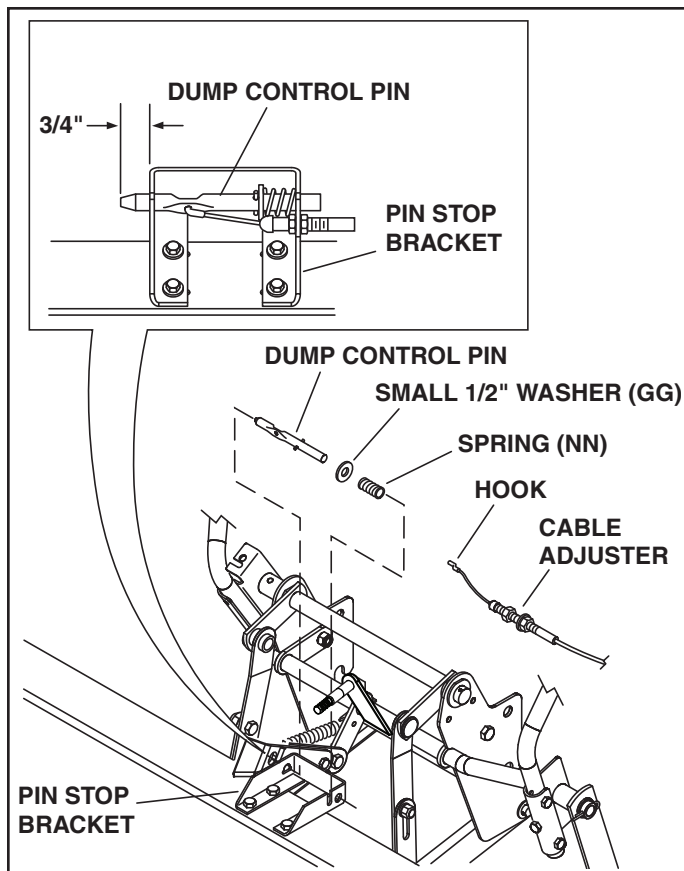

FIGURE 16
STEP 17: INSTALL DUMP CONTROL PIN (SEE FIGURE 16)
- Install a small 1/2" washer (GG) and then the short compression spring (NN) onto the dump control pin. Install the dump control pin into the pin stop bracket. Make sure the flat side of the pin faces to the front when finished.